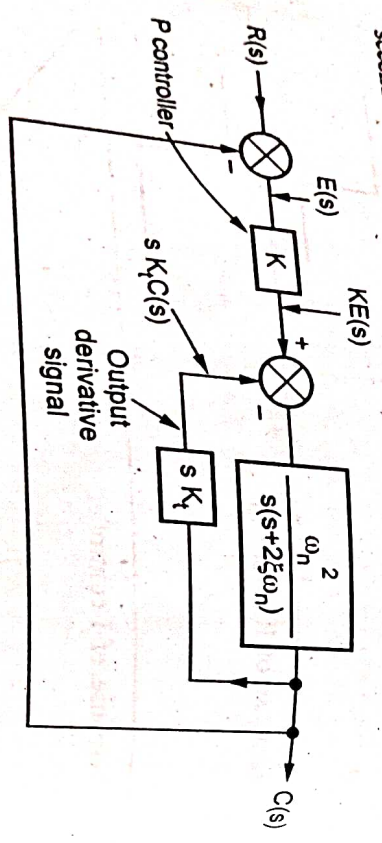

Fig. Q.10.1 Rate feedback controller
- The Fig. Q.10.1 shows the use of rate feedback controller with standard second order system.